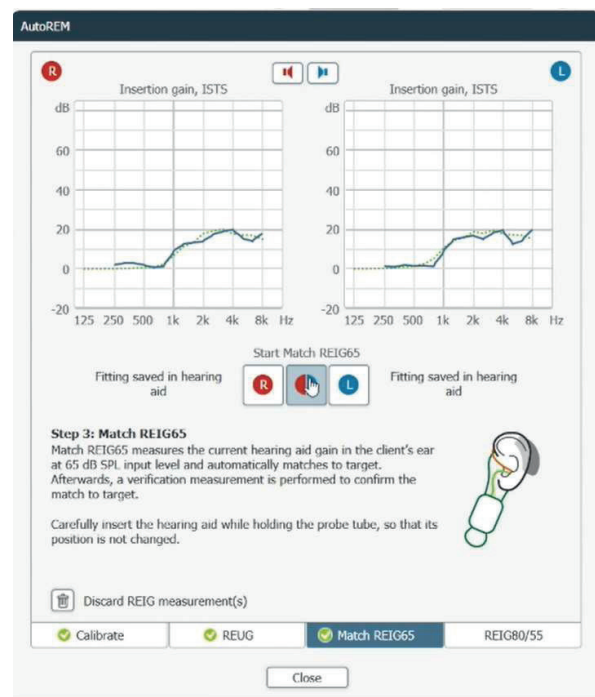

Figure 2 Screenshot of the AutoREM flow in Compass GPS showing the REIG65 target matching.
Another fitting improvement in Compass GPS, which is based on direct market feedback, is the new AutoREM feature in Compass GPS 4.3. With the AutoREM solution, it is now possible to do GPS-integrated Real-Ear Measurement (REM) with automatic match-to-target for normal speech levels (see Figure 2). The purpose of the feature is to facilitate the use of REM verification of hearing aid fittings.
- Allowing access to the REM hardware indirectly via the REM software module and directly via the fitting software (visible in Compass GPS, see Figure 2).